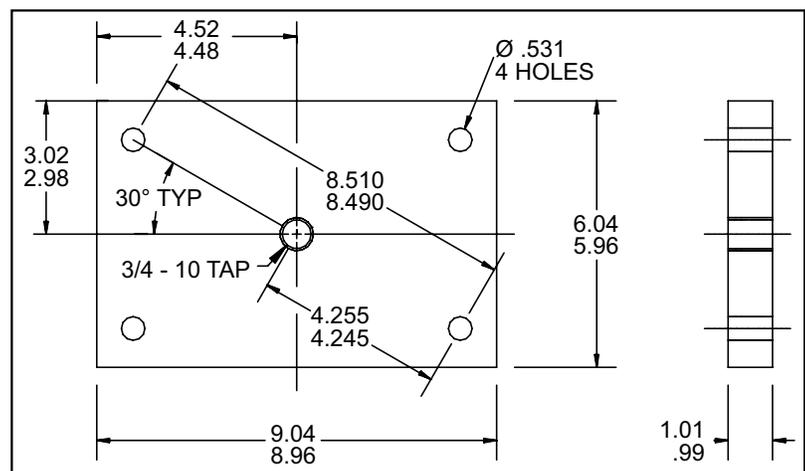

Figure 5. Bearing Pressing Fixture
13. The end plate, with the bearings, must be pulled from the rotor shafts. Make up two plates as shown in Figure 5, along with eight pieces of 1/2 -13 all thread, flat washers and hex nuts. The use of a hydraulic ram is also recommended but some modifications may be necessary depending on the type of equipment available. Install each plate to the bearing retainer ring mounting holes and apply pressure equally to the ends of the rotor shaft by tightening the nuts on the threaded rods. Install spacers under plates after rotor shafts become flush with top of bearing. Use a hoist to pick up the end plate once the bearings have cleared the shaft ends.
14. After the end plate is removed, tap out the bearings (9). Remove large O-ring (176).
NOTE: Two wave springs are necessary for the proper pressure on the seal, but because of this pressure a tool as shown in Figure 5 on page 13 is needed to press the retainer ring into its groove. The tool will center the labyrinth seal as it presses the retainer ring in place.